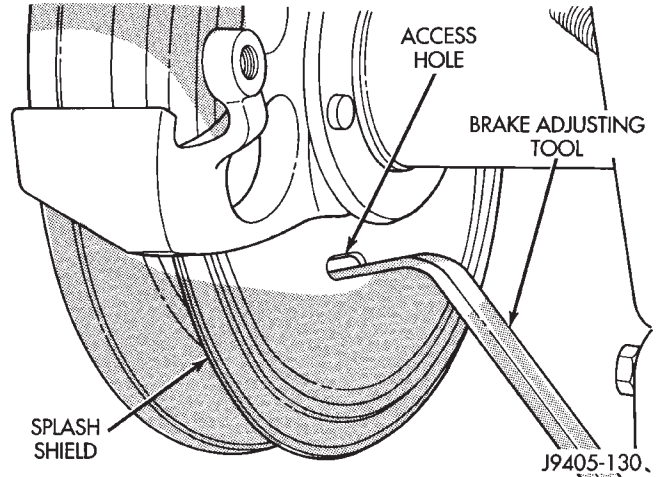
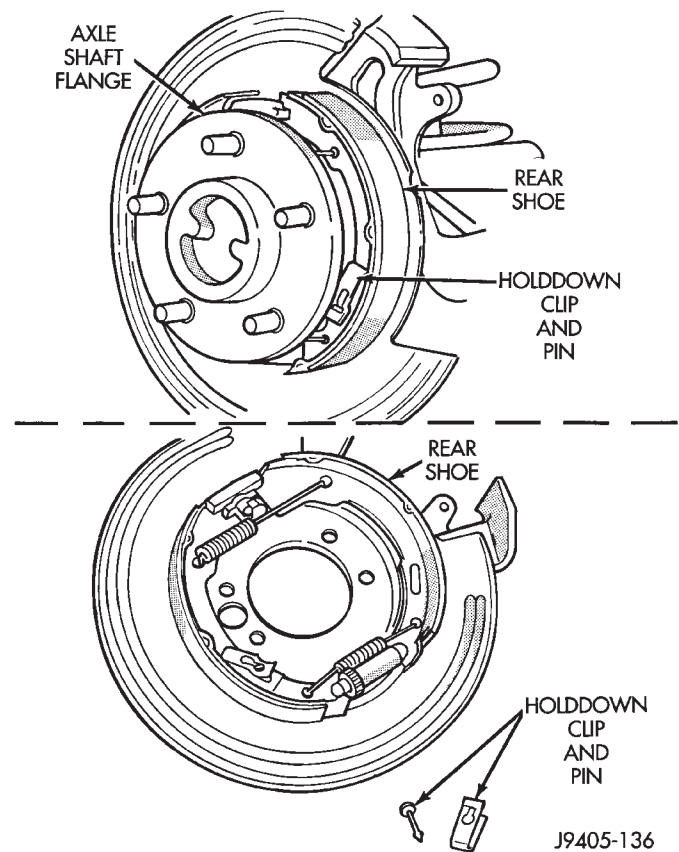

Fig. 46 Retracting Parking Brake Shoes
Fig. 47 Holddown Clip And Pin
(1) Raise vehicle.
(2) Remove rear wheel and tire assembly.
(3) Remove caliper. **Do not allow brake hose to support caliper weight. Support caliper with wire attached to suspension component.**
(4) Remove rubber access plug from back of rear disc brake splash shield.
(5) Retract parking brakeshoes with brake adjuster tool (Fig. 46). Position tool at top of star wheel and rotate wheel downward in clockwise direction (while facing front of vehicle).
(6) Remove rotor from axle hub flange.
(7) Remove shoe holddown clips and pins (Fig. 47). Clip is held in place by pin which fits in clip notch. To remove clip, first push clip ends together with thumb or forefinger. Next, slide clip upward until head of pin clears narrow part of notch. Then remove pin and clip.